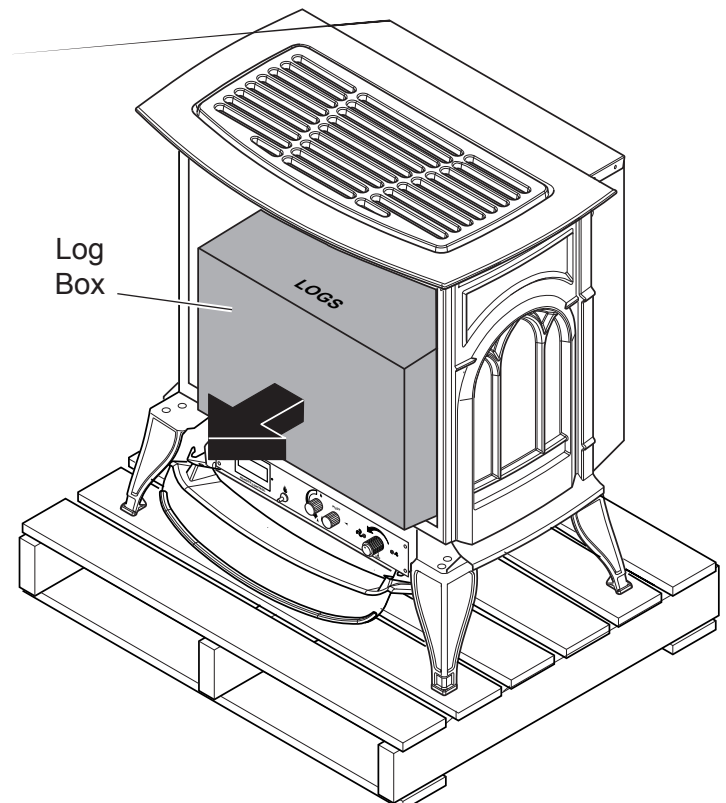

Figure 8 - Removing Log Box
3. Lift up on ash lip and pivot down to open control door. See Figure 8.
4. Lift up on front. Pivot bottom of front out. Remove front. See Figure 8.